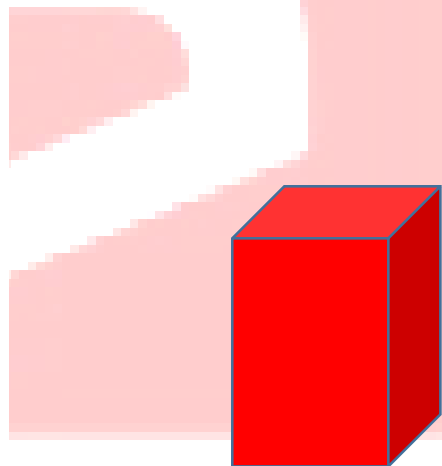

Figure 4B: A Red Colored block
- Team prepares 3 blocks each of Red, Blue, Green and Black by covering the blocks with the respective colored chart paper. A red block is shown as an example in Figure 4B.